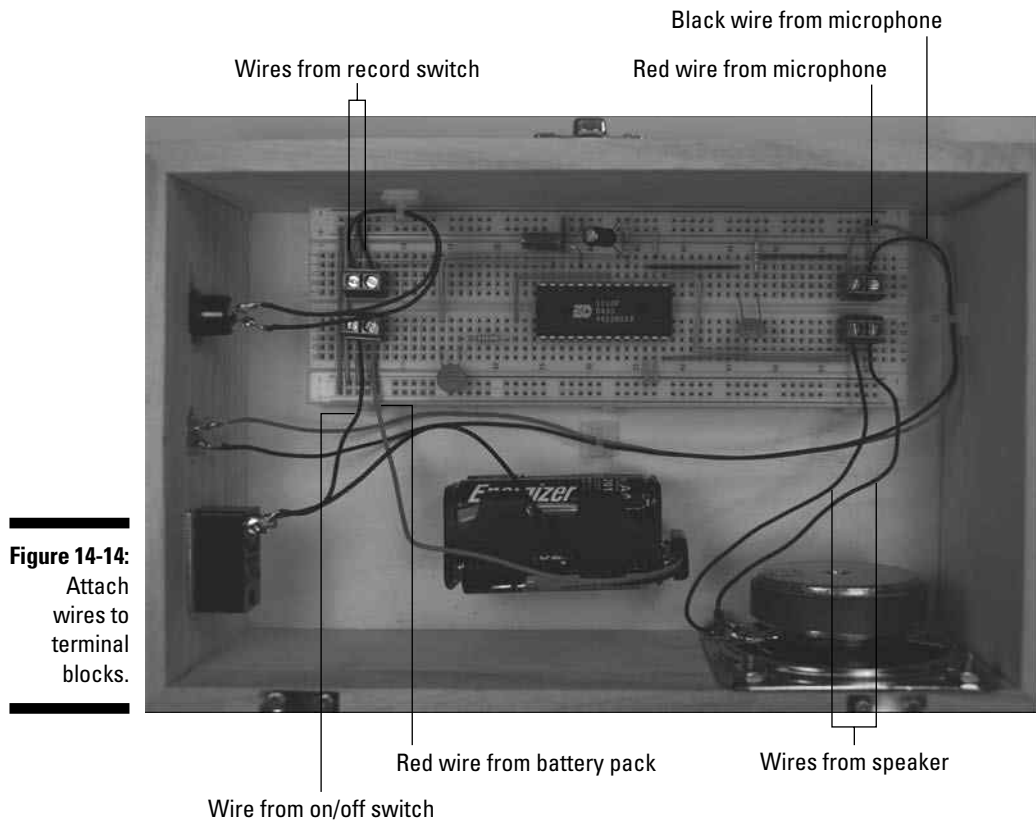

Figure 14-14:
- 13. Attach the wires from the battery pack snap connector, on/off switch, record switch, microphone, and speaker to the terminal blocks, as shown in Figure 14-14.**